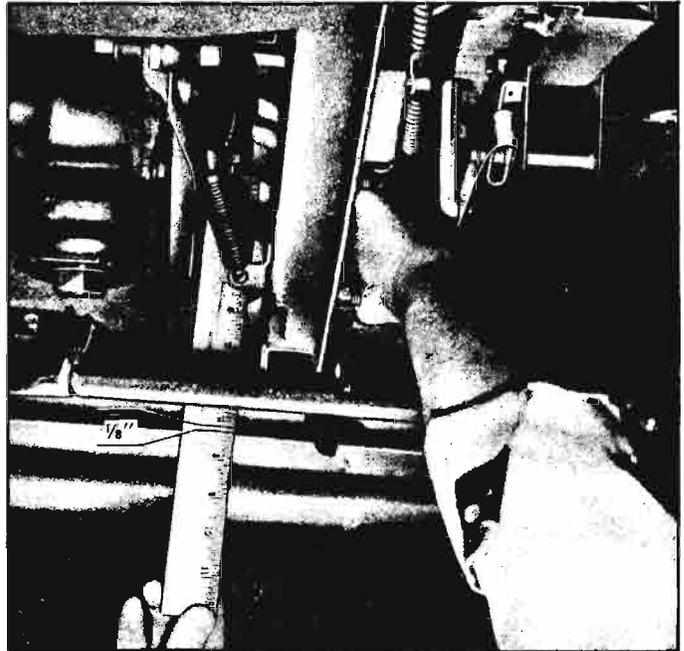

Fig. 5-28—Measuring Pedal Free Play
- be measured at bottom of pedal post (fig. 5-28).